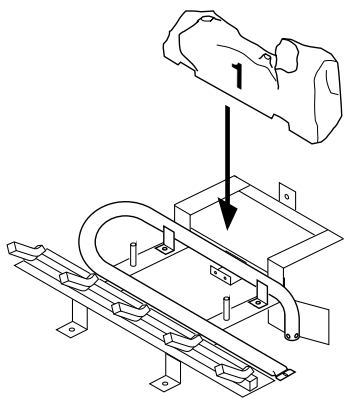

Figure 42 - Installing Log No. 1
It is very important to install these logs exactly as instructed in Figures 42 through 46. Do not modify logs. Only use logs supplied with freestanding burner system. Do not use if any log(s) are broken (see *Replacement Parts*, page 26).
2. Place log #1 (back log) on top of grate. Make sure the notches in the bottom of the log fit over the grate (see Figure 42).